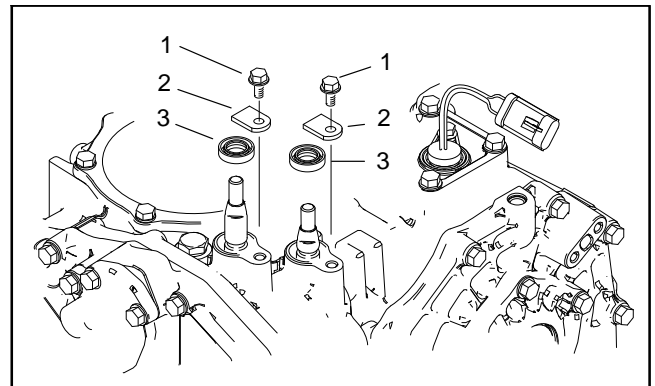

Figure 28
C. Loosen cap screws (Fig. 28) and remove keeper plates.